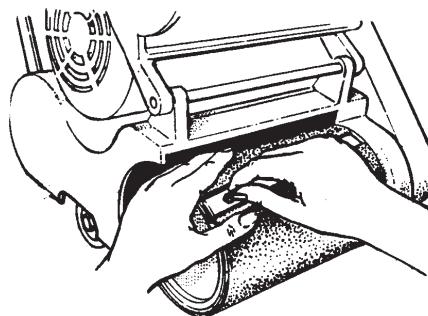

Figure 8
6. To install abrasive on sanding drum equipped with paper clamp: loosen screws to paper clamp with a coin. Do not remove screws or clamp from the sanding drum. Insert one edge of abrasive under paper clamp. Rotate sanding drum to wrap abrasive around drum. Insert other edge of abrasive under paper clamp. Center abrasive and take up any slack in the abrasive. Tighten screws on paper clamp. Close drum cover. See figure 8.